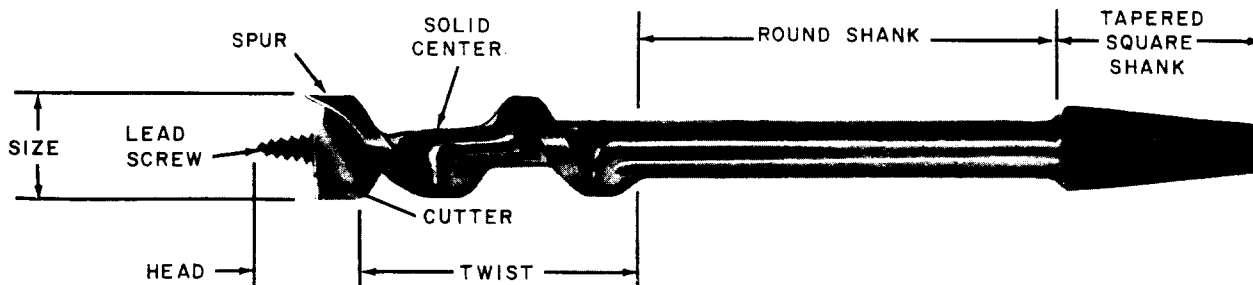

Fig. 3 — Insulator Pin Bit
2.09 The insulator pin bit (Fig. 3) consists of a solid center twist provided with a head containing a single cutter, a single spur, and lead screw having 12 threads per inch. The length of the bit has been limited to 6-7/8 inches to permit operating the brace between crossarms having standard spacing.